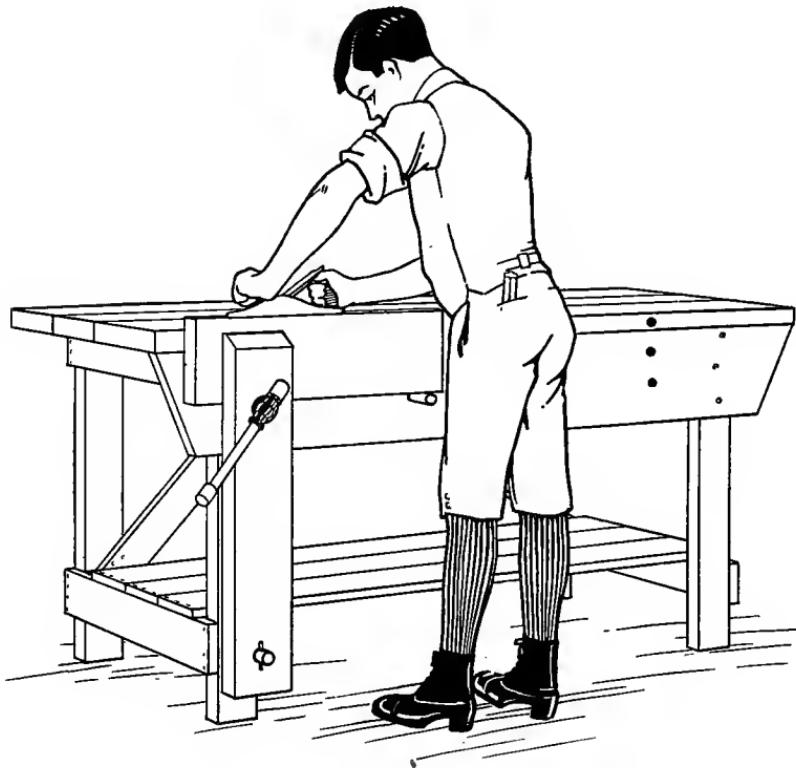
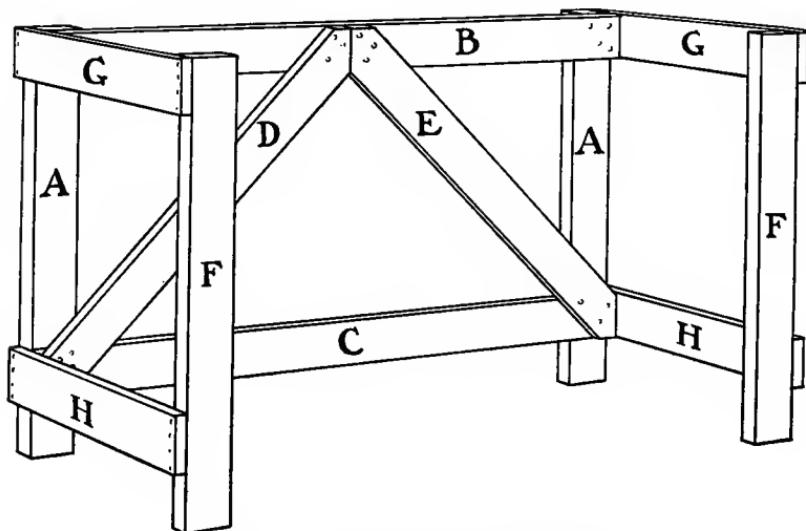

FIG. 30. — A Handy Boy's Work-Bench.
FIG. 31. — Framework of the Work-Bench.
For the bench shown in Fig. 30, 2-by-4s should be used for the legs, 4-inch boards for the braces and rails, 2-inch stuff 8 inches or 10 inches in width, for the bench-top, and a piece of 2-by-8 for the jaw of the vise. If you know a carpenter, he will probably be willing to do your purchasing for you; or, if there is a building in course of construction in your
**The Framework.** Cut the four legs (*A* and *F*, Fig. 31) 2 feet 6 inches long, the rails *B* and *C* 4 feet long, and rails *G* and *H* 23 inches long. Then place the legs *A* upon the floor, flatwise, and connect them with rails *B* and *C*, fastening *B* at the tops as shown, and *C* 4 or 5 inches above the lower ends. The frame thus made must be square at the
to legs *A*. When stood upon its legs, the framework should look like it does in Fig. 31.
Cut the *apron*, or wide board that extends across the face of the bench (Fig. 30), next, and fasten it to the framework (Fig. 31). This board should be 5 feet long, with the ends cut off on the diagonal, as shown; it may be cut from an 8-inch or a 10-inch board. Fasten it to the face of the front legs with an equal projection over each bench end.
Several holes should be bored through the work-bench apron, as shown in Fig. 30, and a peg should be cut to fit